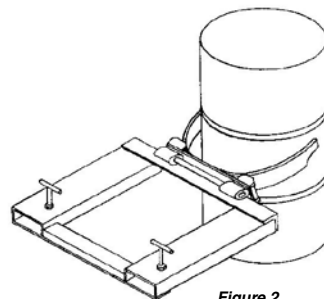

Figure 2
6. Move unit forward unto drum, lowering jaws slowly as you move. Jaws will open and close around drum. (Figure 2).